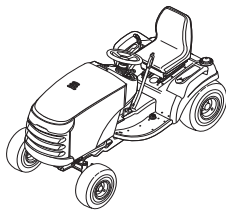

**Figure 57. Mower Deck Drive Belt Routing All Models**
6. Install a new belt as shown in Figure 57. Make sure that V-side of belt runs in arbor pulley (A) grooves and flat side of belt runs against idler pulley (B).